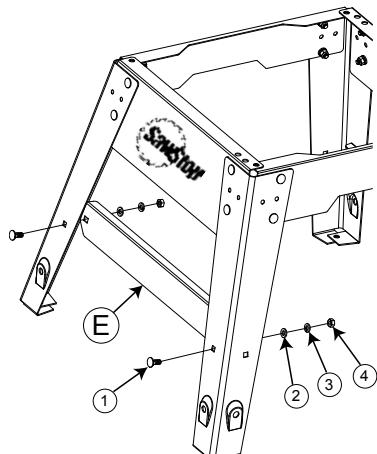

Fig. 6
- Attach one of the short brackets marked E between the two front legs (see Fig. 6). Make sure the legs are in front of the bracket. Use two M8 x 20 carriage bolts, two M8 washers, two M8 lock washers, and two M8 hex nuts. Do not fully tighten the nuts. Repeat this process to attach the remaining short bracket E between the rear legs.